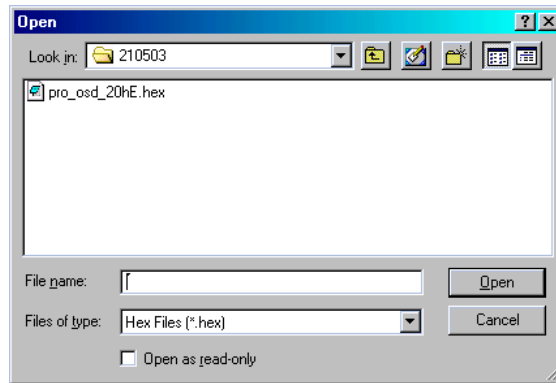

Figure 20 The Open box
2. From the **File** menu, choose **Open**. The **Open** box appears. See Figure 20.